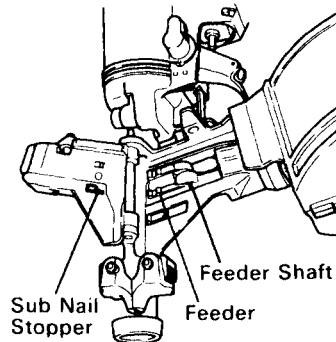

Fig. 22
- Open the nail guide and remove dust, etc., as shown in Fig. 22. Apply lubricant to the sliding groove of the feeder and feeder shaft. Check the sub nail stopper slide smoothly by pushing them with your finger.